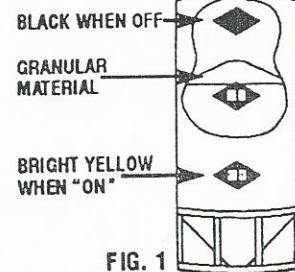

FIG. 1
- Step 7) Fold **Activator** into tubular shape and push through hole until foam gasket is against bin wall. See Fig. 1